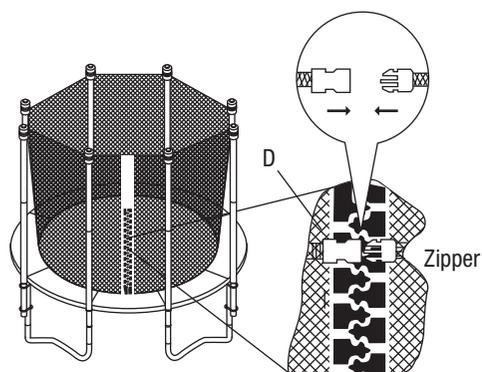

fig. 5
Close the zipper on the safety net (D) entrance. Ensure that the entrance is located between two trampoline support legs, then connect the two snap closures (Fig. 5) (the lower snap closure is not illustrated).